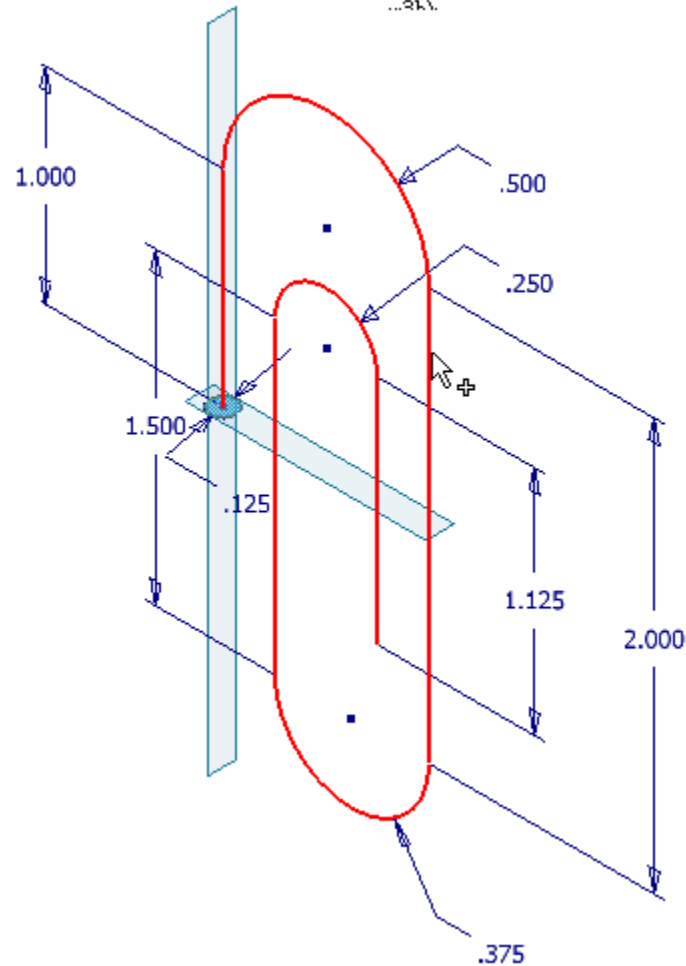

Figure 6
- Click on the line that was created in Sketch1. (Figure 6)